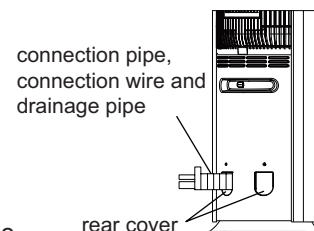

Fig.22
2. According to installation position, cut one of the baitings, thread the packed pipe and wire through the baiting hole.(As show in Fig.22)